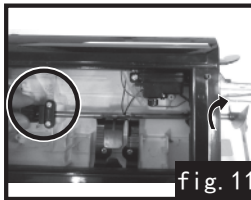

fig. 11
- 11.Hold the rubber part of main shaft, use spanner to tighten the nut at the end to secure the propeller in position, i.e. the propeller with copper outside should attach to the main shaft,fig.11.